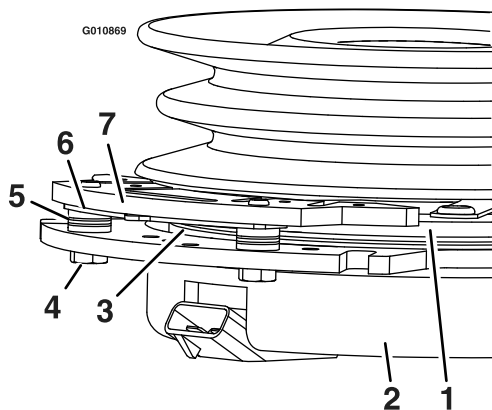

**Figure 62**
3. Remove the dust cap from caster and tighten the locknut (Figure 62).
4. Tighten the locknut until the spring washers are flat and then back off a 1/4 turn to properly set the pre-load on the bearings (Figure 62).
- Important:** Make sure the spring washers are installed correctly as shown in Figure 62.
5. Install the dust cap (Figure 62).